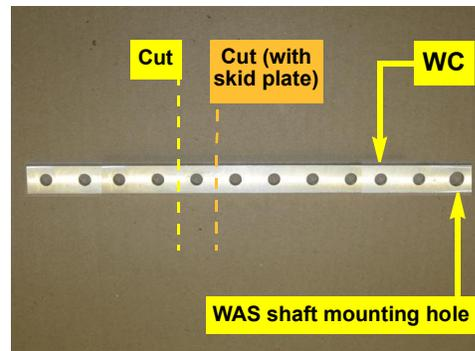

Figure 1b: WAS arm preparation
- b. Cut four holes (no skid plate) or five holes (with skid plate) off WAS arm **WC** at the opposite end from the WAS shaft mounting hole (Figure 1b).